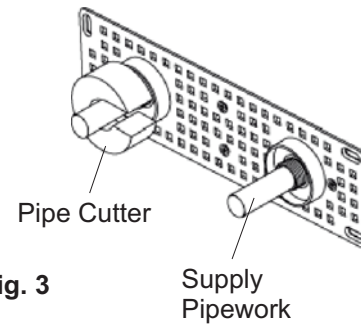

Fig. 3
Once the wall mount fixing plate has been secured to the wall, the water supply pipework will need to be trimmed back with the use of a pipe cutter. (See Fig 3)
4.4 Adjustable Riser Installation (Ref:Fig.3) - CLR SHXMTFF C only
CLR SHXMTFF C (See Fig.3) Page 10